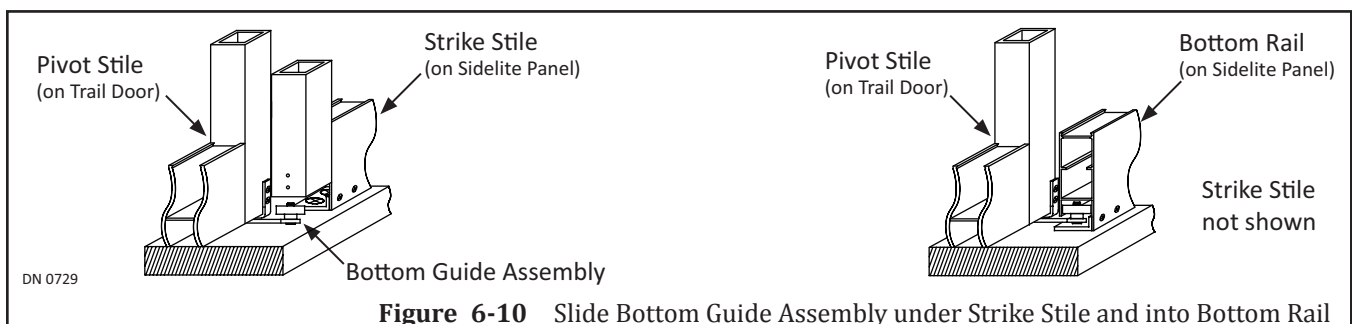

Figure 6-10 Slide Bottom Guide Assembly under Strike Stile and into Bottom Rail
12. Slide the Trail Door until the Bottom Guide Assembly can slide underneath the Strike Stile and then into the Bottom Rail of the Fixed Sidelite Panel. Please see Figure 6-10.